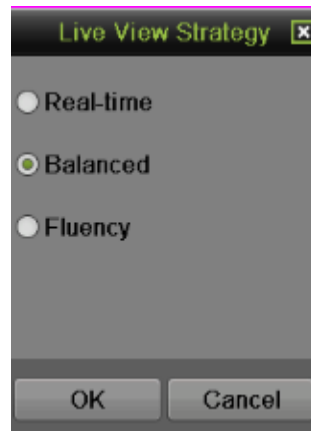

Figure 28 Live View Strategy Menu
2. Click the Live View Strategy icon. This will bring up the Live View Strategy menu, as shown in Figure 28.